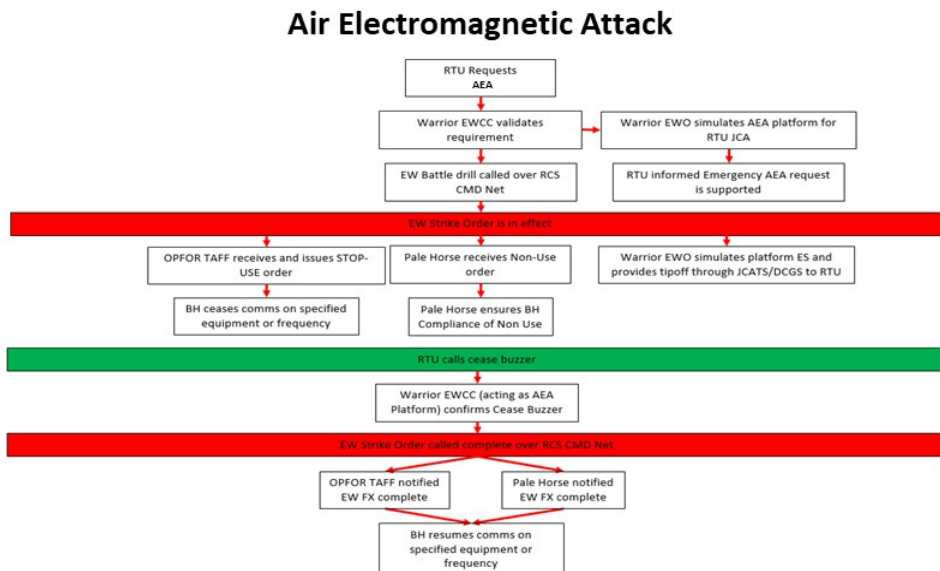

Figure 1.
2. Requesting Procedures. All requests for electronic attack (EA) must consist of the following: DD 1972, Joint Tactical Airstrike Request, Electronic Attack Request Form (EARF), and a CONOP is required 72 hours prior to execution; submit CONOPs to DIV EWO.
6. **Cease Buzzer Procedures.** CEASE BUZZER (CB) procedures must be articulated in all EA requests to include CB FREQs (UHF/HF/FM) and JCA/JTAC call signs. All calls for CB must be verified by reason.
- b. When the EWCC deems that a request is valid and warrants support, there are multiple role-players that need to adhere to EW replication procedures in order to facilitate realistic EW effects. Figure 1 outlines the appropriate procedures for simulation of a notional AEA asset.